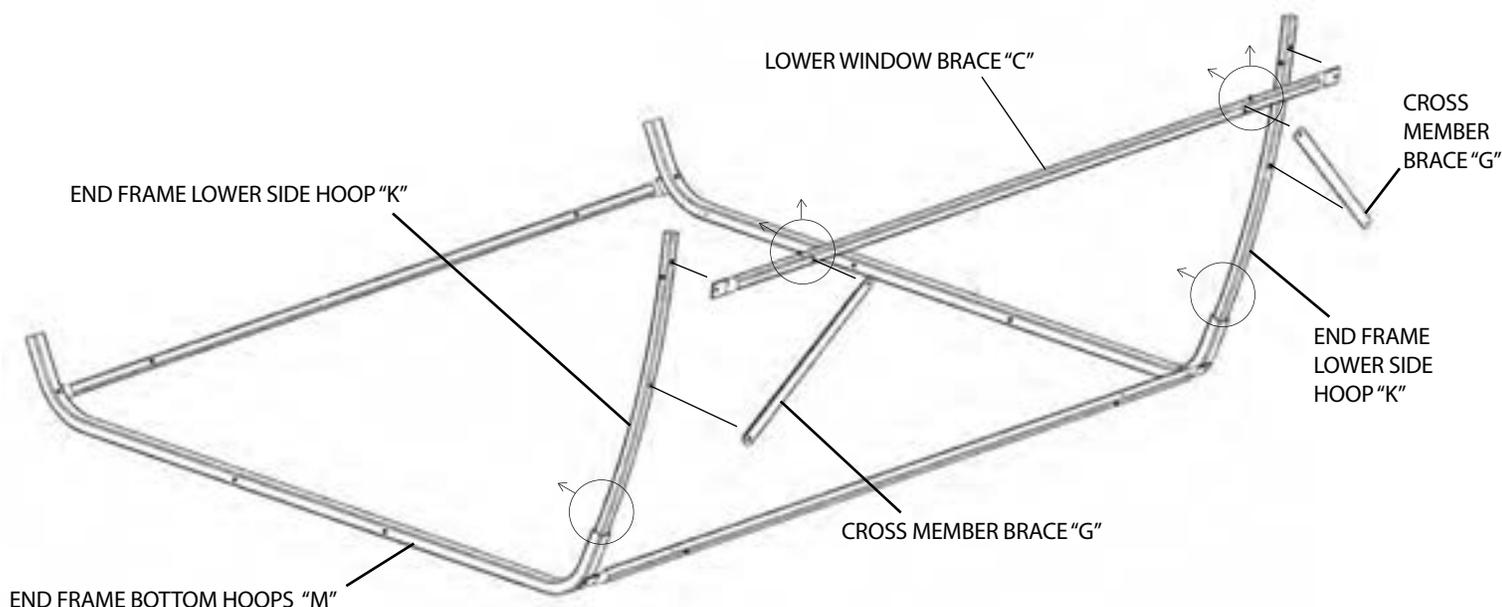

Figure 11.1
STEP 3: Locate the (5) parts that will be assembled to create the first section of the bale blind frame. These parts are (2) END FRAME LOWER SIDE HOOPS "K", (1) LOWER WINDOW BRACE "C", and (2) CROSS MEMBER BRACES "G". Using the hardware connection in (2) places, align and fasten the hole ends in the LOWER WINDOW BRACE "C" with the upper most holes in the (2) END FRAME LOWER SIDE HOOPS "K", and fasten with (2) Bolts and (2) Nuts. Next align the hole ends of the (2) CROSS MEMBER BRACES "G" with the corresponding holes in the LOWER WINDOW BRACE "C" as well as the lower holes in the END FRAME LOWER SIDE HOOPS "K", and fasten with (4) Bolts and (4) Nuts, as illustrated in Figure 11.1.
NOTE: On the LOWER WINDOW BRACE "C", make sure (2) Set Screws already installed are facing towards what would be the interior of the blind, while the other (2) Set Screws already installed are facing upwards, as illustrated in Figure 11.1.